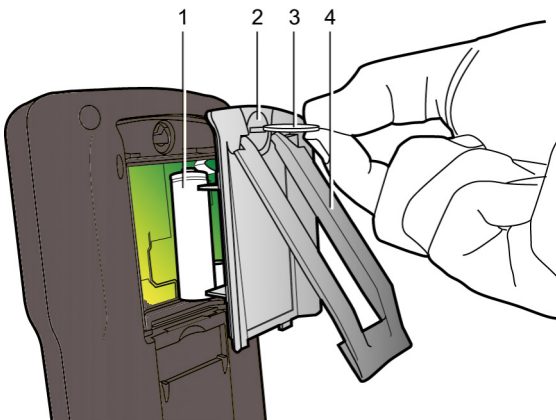

Figure 6-1
To access the batteries, turn the instrument over and turn the lock one-quarter turn (Figure 6-1, item 2) counter-clockwise using a coin (Figure 6-1, item 3).